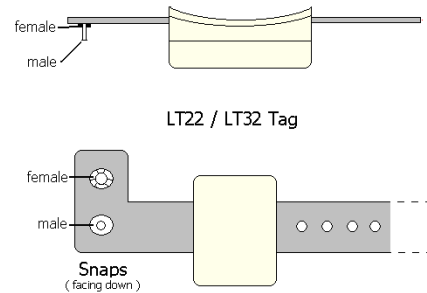

Figure 3.2 Attaching LT Tag style
1. With the snaps pointing in the same direction as the Accutech logo, slide the plastic band through the Slot. (Figure 3.2).